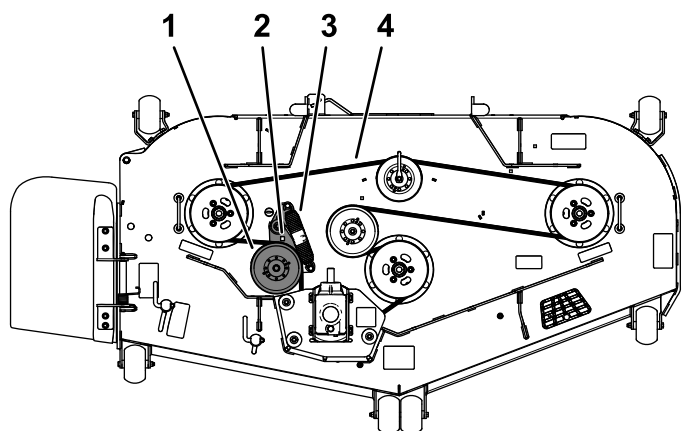

Figure 59
5. Use a ratchet in the square hole in the idler arm to remove tension on the idler spring (Figure 59).
7. Install the new belt around the mower pulleys (Figure 59).
8. Ensure that the spring ends are seated in the anchor grooves, and using the ratchet in the square hole, install the belt around the idler pulley (Figure 59).